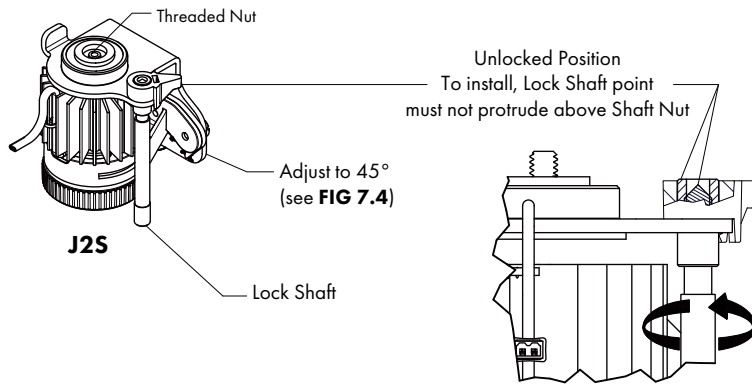

FIG 7.1 Preparing Lamp Module J2S for installation
Step 1 Before installing Lamp Module, make sure correct LED Power Supply Module is installed & Lock Shaft is in unlocked position - **FIG 7.1**.